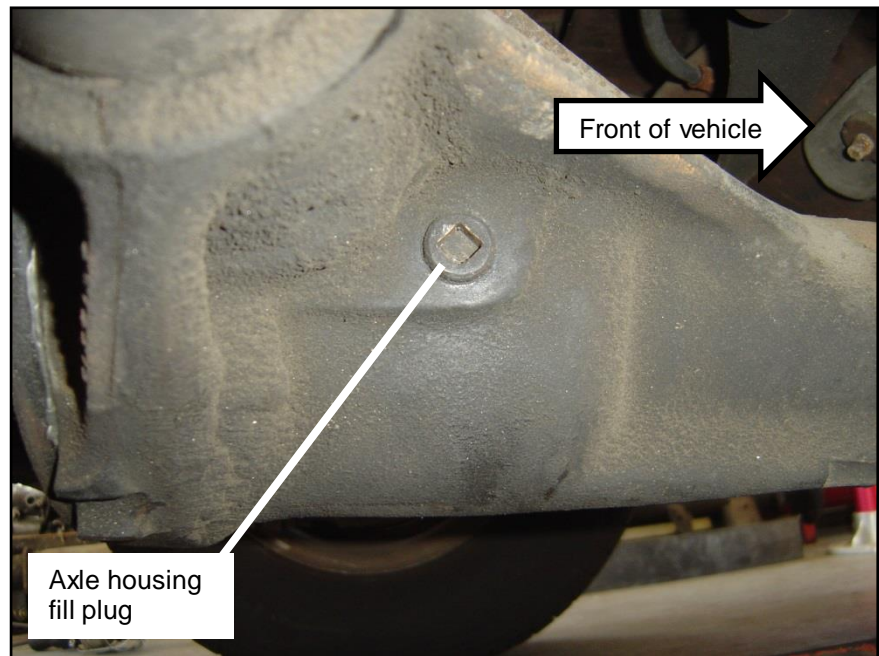

Figure 1
**STEP 3.** Remove the axle housing fill plug with a 3/8" square ratchet and extension (**See Figure 1**).